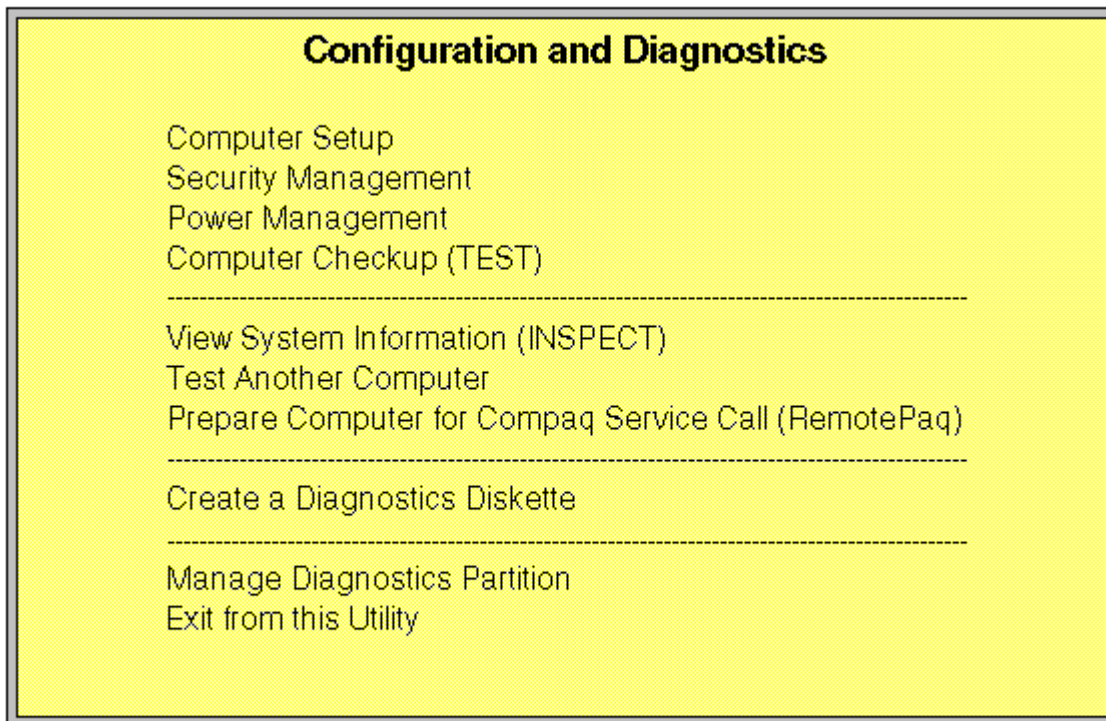

Figure 2-2. Configuration and Diagnostics Screen
You can access the diagnostics at startup from the hard drive or from the diskettes. Procedures for both methods are presented below. Both procedures will result in the Configuration and Diagnostics menu being displayed. Your particular menu may differ slightly from the one shown in Figure 2-2.
4. A menu similar to the one shown in Figure 2-2 will be displayed. You will be prompted through any procedure that you select.
4. If you load the Diagnostics diskette, a menu similar to the one shown in Figure 2-2 will be displayed. If you select Computer Setup from this menu, you will be prompted to insert the Setup diskette. You will be prompted through any procedure that you select.